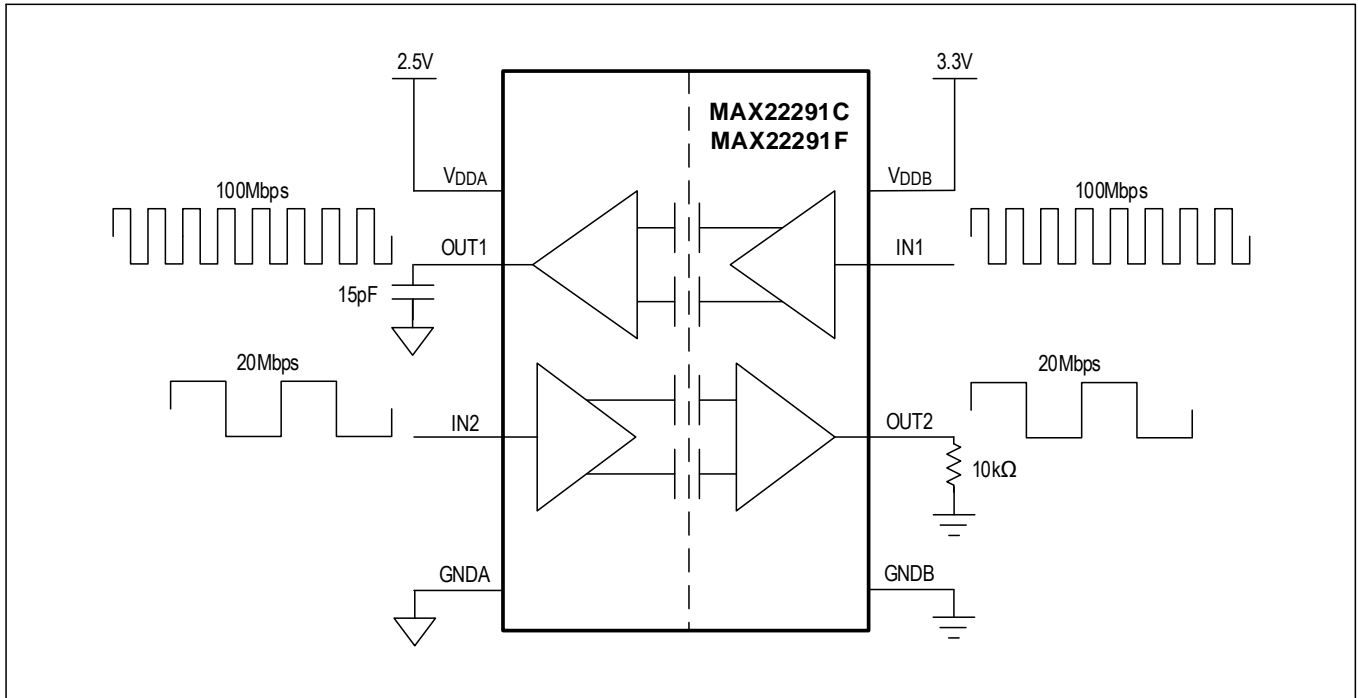

Figure 10. Example Circuit for Supply Current Calculation
**Example** (shown in Figure 10): A MAX22291C/F is operating with  $V_{DDA} = 2.5V$ ,  $V_{DDB} = 3.3V$ , channel 1 operating at 100Mbps with a 15pF capacitive load, and channel 2 operating at 20Mbps and 50% duty cycle with a 10k $\Omega$  resistive load. See Table 4 and Table 5 for  $V_{DDA}$  and  $V_{DDB}$  supply-current calculation worksheets.